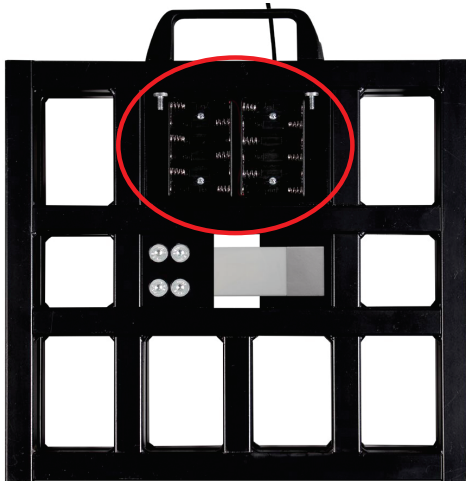

Figure No. 1
2. Locate the two rectangular panels in the scale base. Refer to Figure No. 1.